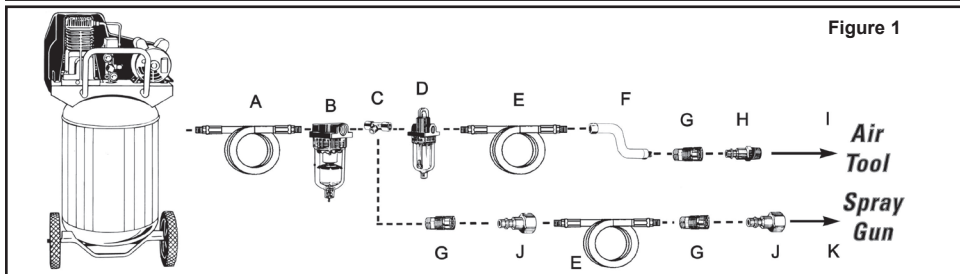

Figure 1
6. Connect the tool to the air hose quick coupler. **NOTE: It is recommended that a whip hose with a swivel (not included) be used to prevent twisting, kinking and excessive wear to the air hose (ref. item "F" in figure 1 for recommended connections).**
To maintain the maximum performance of the air tool, it must be lubricated each time it is used. Dust, dirt, rust and oil residue will build up inside the tool and reduce the performance. An in-line oiler is recommended for proper automatic tool lubrication (see Figure 1). If an in-line oiler is not available, the tool can be lubricated manually through the inlet port (see Figure 5).